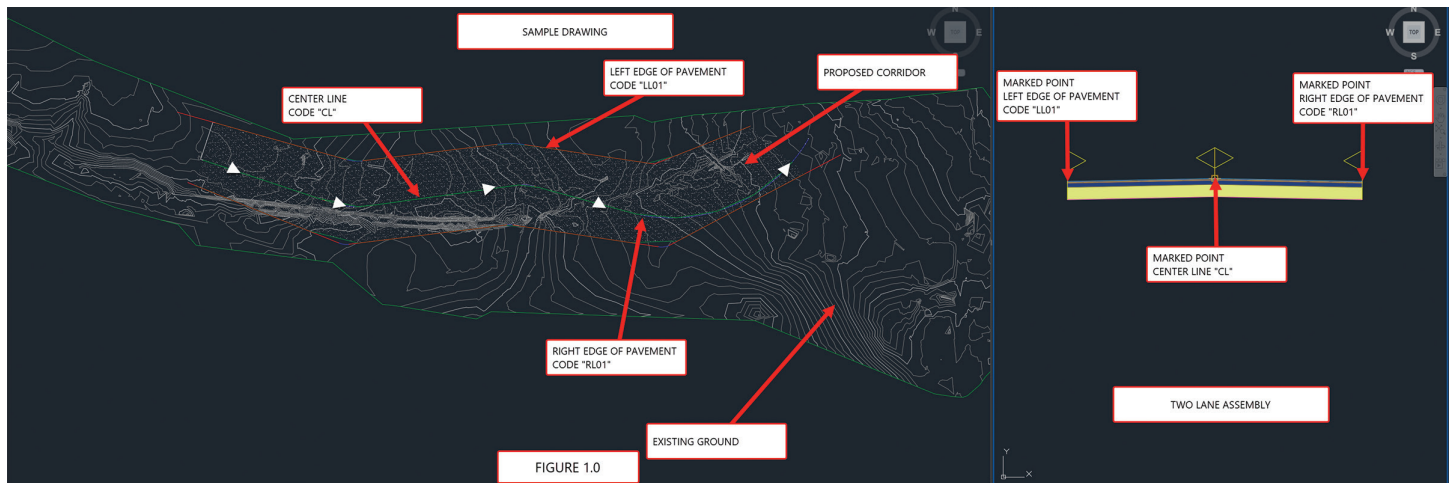

Figure 1 - Data Inputs
Data Inputs – The 3D topography of the existing ground, roadway centerline, and lanes edges (see Figure 1).
2. Create and a two-lane assembly (see Figure 1)